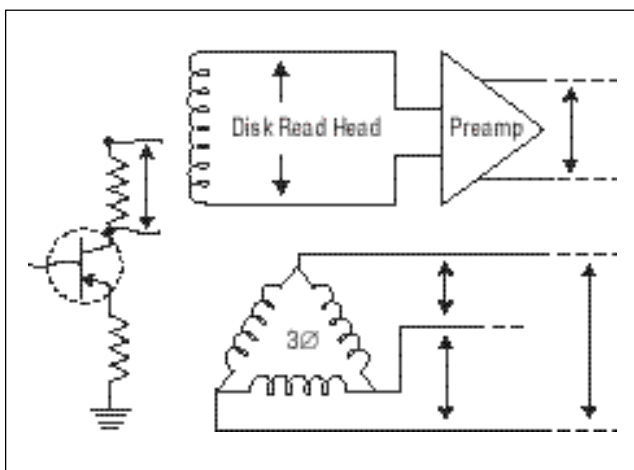

Figure 2-3. Some examples of differential signal sources.
**Differential probes.** Differential signals are signals that are referenced to each other instead of earth ground. Figure 2-3 illustrates several examples of such signals. These include the signal developed across a collector load resistor, a disk drive read channel signal, multi-phase power systems, and numerous other situations where signals are in essence “floating” above ground.